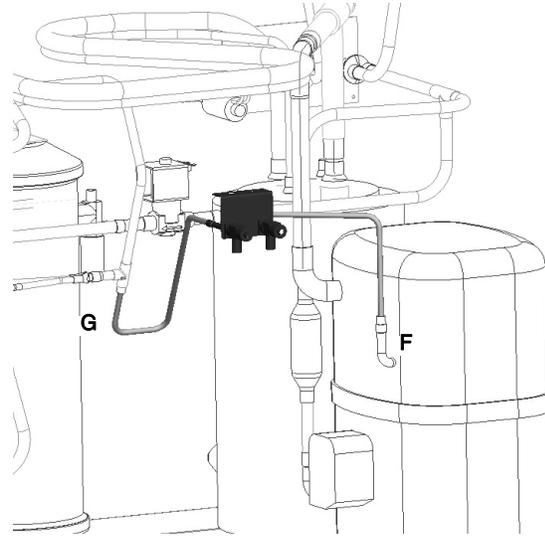

Figure 35A
Braze the high side service valve onto the liquid line behind the TXV valves (G) (FIGURE 35A).